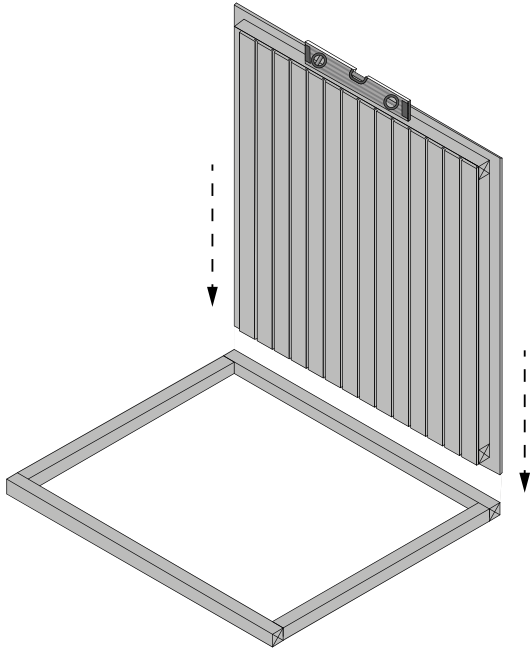

Figure 3.
- 5) Ensure the wall is set level (see figure 3).